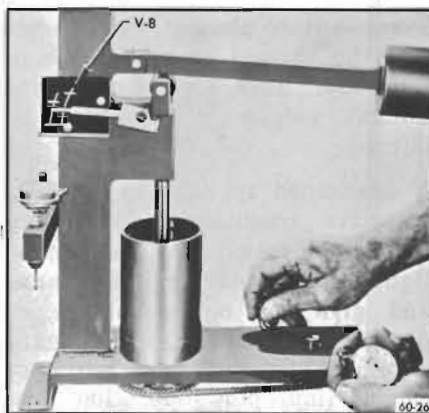

Figure 60-26—Checking Lifter Leak-Down Rate
6. Raise weight arm to allow lifter plunger to come up to its retainer, then lower arm to rest on the ram roller. As pointer starts moving upward, start rotating fluid cup by turning handle one revolution every two seconds. See Figure 60-26.
7. Use a stop watch to check time required for pointer to move from lower to upper mark on scale where marked "BUICK V-8." The cup must be rotated during this test. See Figure 60-26.